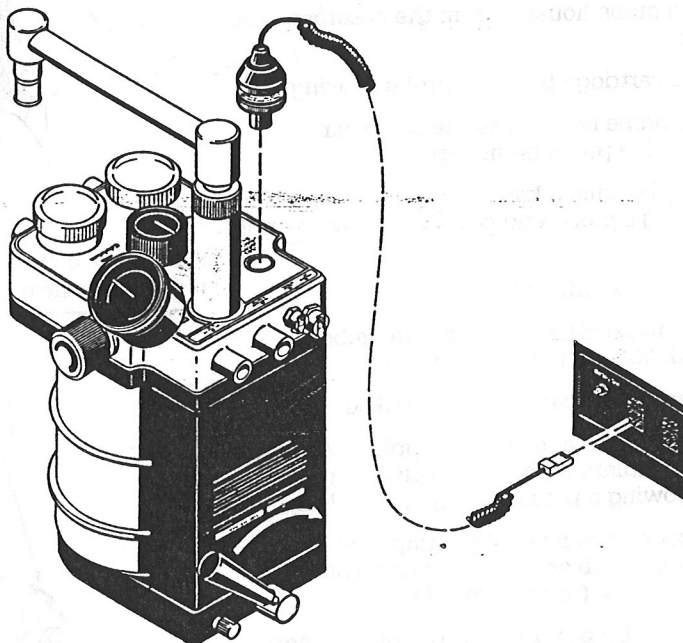

Figure 6-8
2. Remove the probe housing from the absorber. (See figure 6-8.)